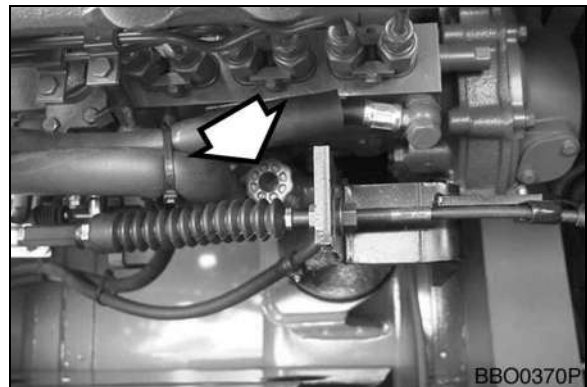

Figure 17
2. Unscrew and pump hand operated primer pump (Figure 17) by fuel injection pump. Pump primer until fuel is present at plug hole in fuel filter head.